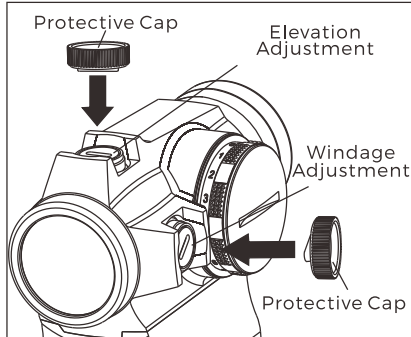

Fig 7
1. The elevation adjustment turret is on the top, the windage adjustment turret is on the right side (see Fig7). The sight has been factory adjusted for approximate zero at 25 yards.
2. The built in screwdriver tool on the protective cap can be used for zeroing adjustment (see Fig7). See label inside cap.